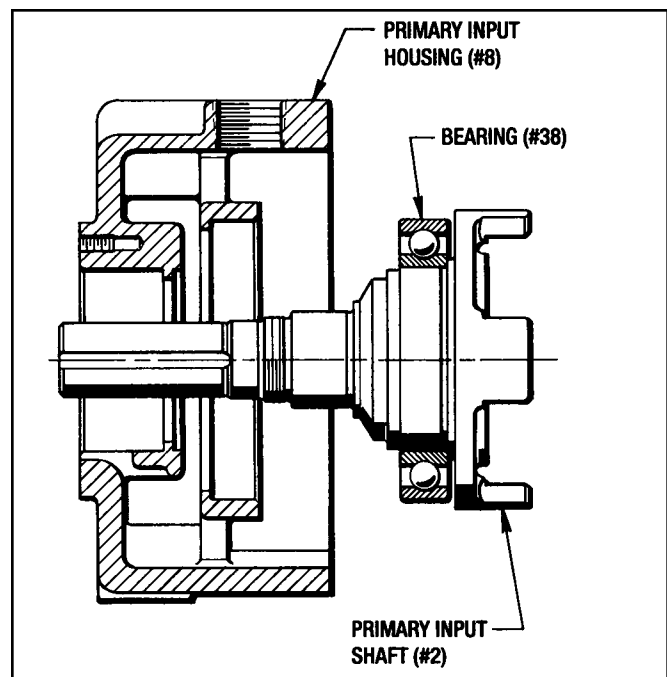

Figure 9.8 - Installing Primary Input Shaft
2. Insert the Input Shaft into the Primary Input Housing(#8). *(See Figure 9.8)*
3. Insert the Quill Primary Input Shaft (#2) into the Primary Input Housing (#8). (See Figure 9.8)